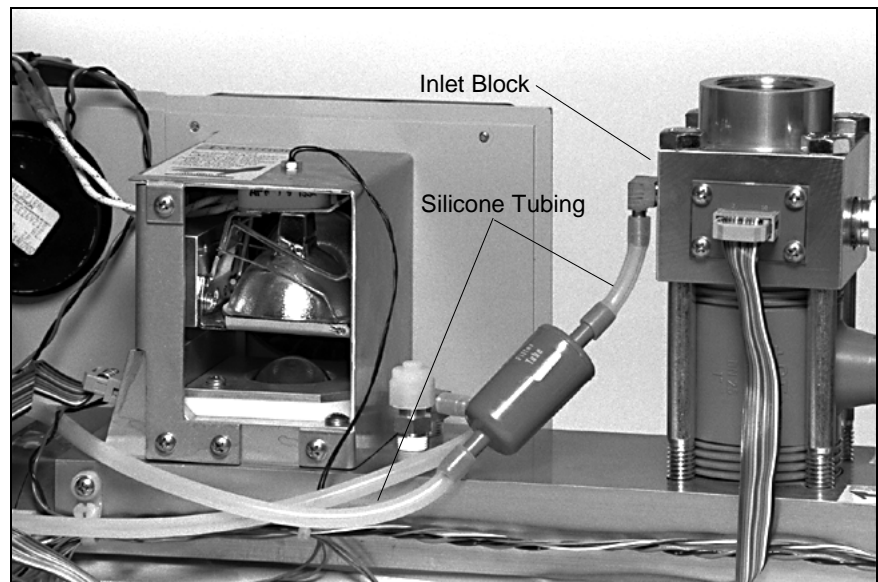

Figure 8-12
- a.** Remove the $\frac{1}{8}$ in. ID silicone tubing from both ends of the blue filter (Figure 8-12).